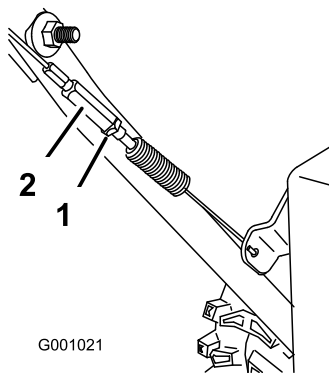

Figure 47
3. Tighten the jam nut (Figure 47).